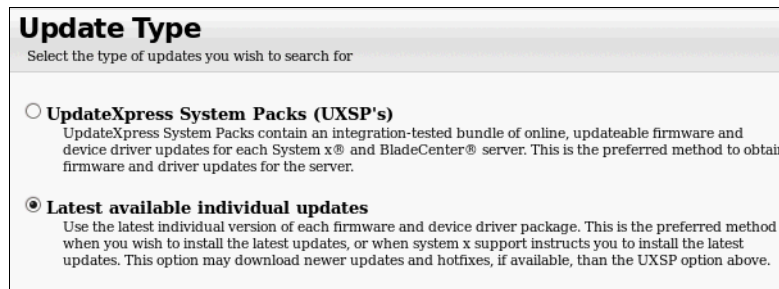

Figure 5-85 Selecting the type of updates
5. Select **Latest available individual updates**, as shown in Figure 5-85. Click **Next**.